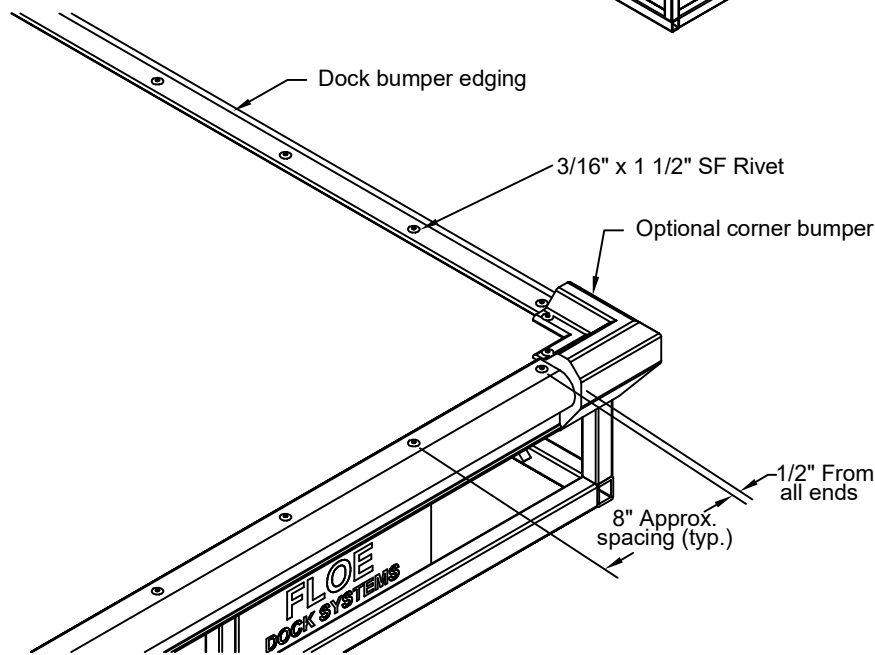

Fig. 1
2. Drill holes for rivets using a #9 drill (.196 dia.). See Fig. 1 below for proper spacing.